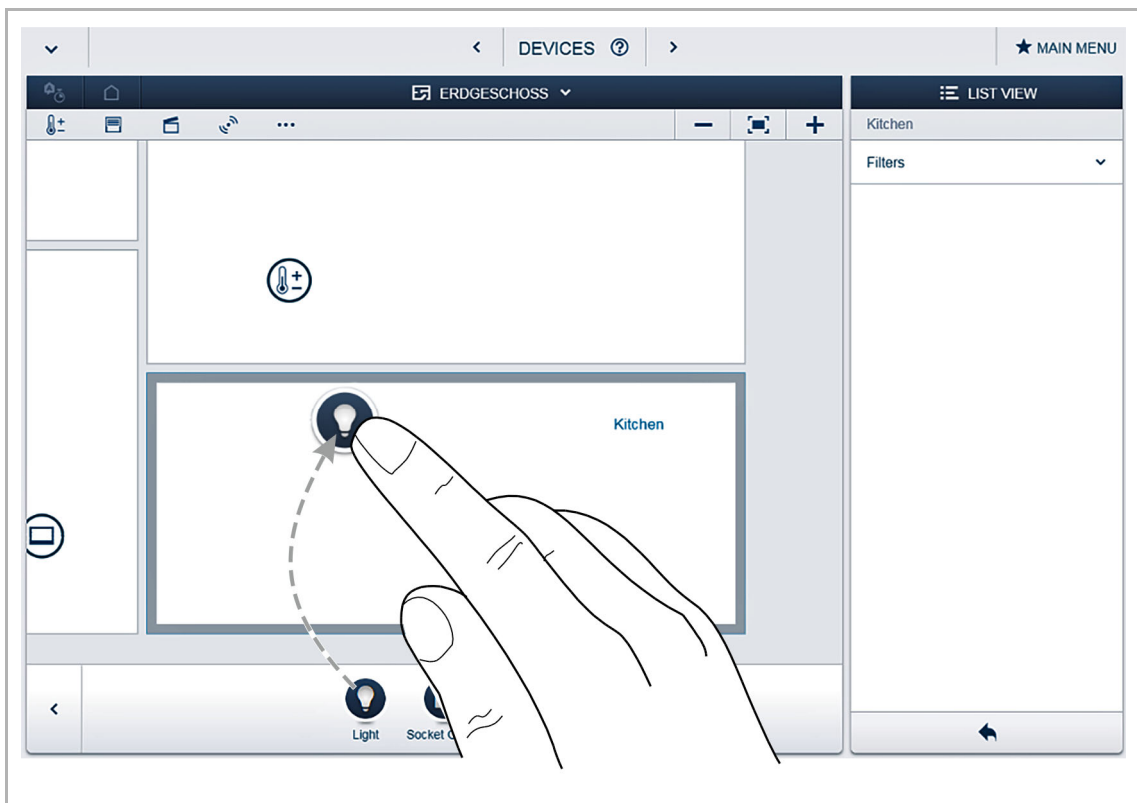

Fig. 22: Dragging the application from the add bar
- In the "Add devices" bar select the desired application and pull it via drag and drop onto the floor plan, see fig. "Fig. 22:" on page 41.